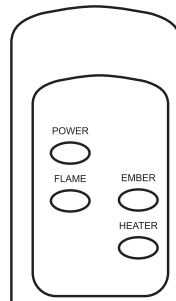

Figure 6 - Remote Control For Electric Fireplace
3. Adjust Flame and Ember to desired settings using the control pad on fireplace or remote control (see Figure 6). Figure 7, page 8, shows fireplace settings available. Default settings are circled. Press control pad or remote control buttons once and release to adjust settings.